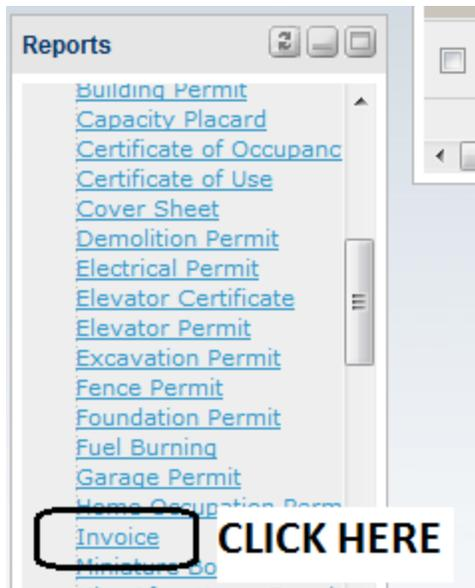

Figure 2.35
44. Clicking on the "Permitting" link will expand the menu. Once expanded, locate the "Invoice" link and click the "Invoice" link. (see Figure 2.35)